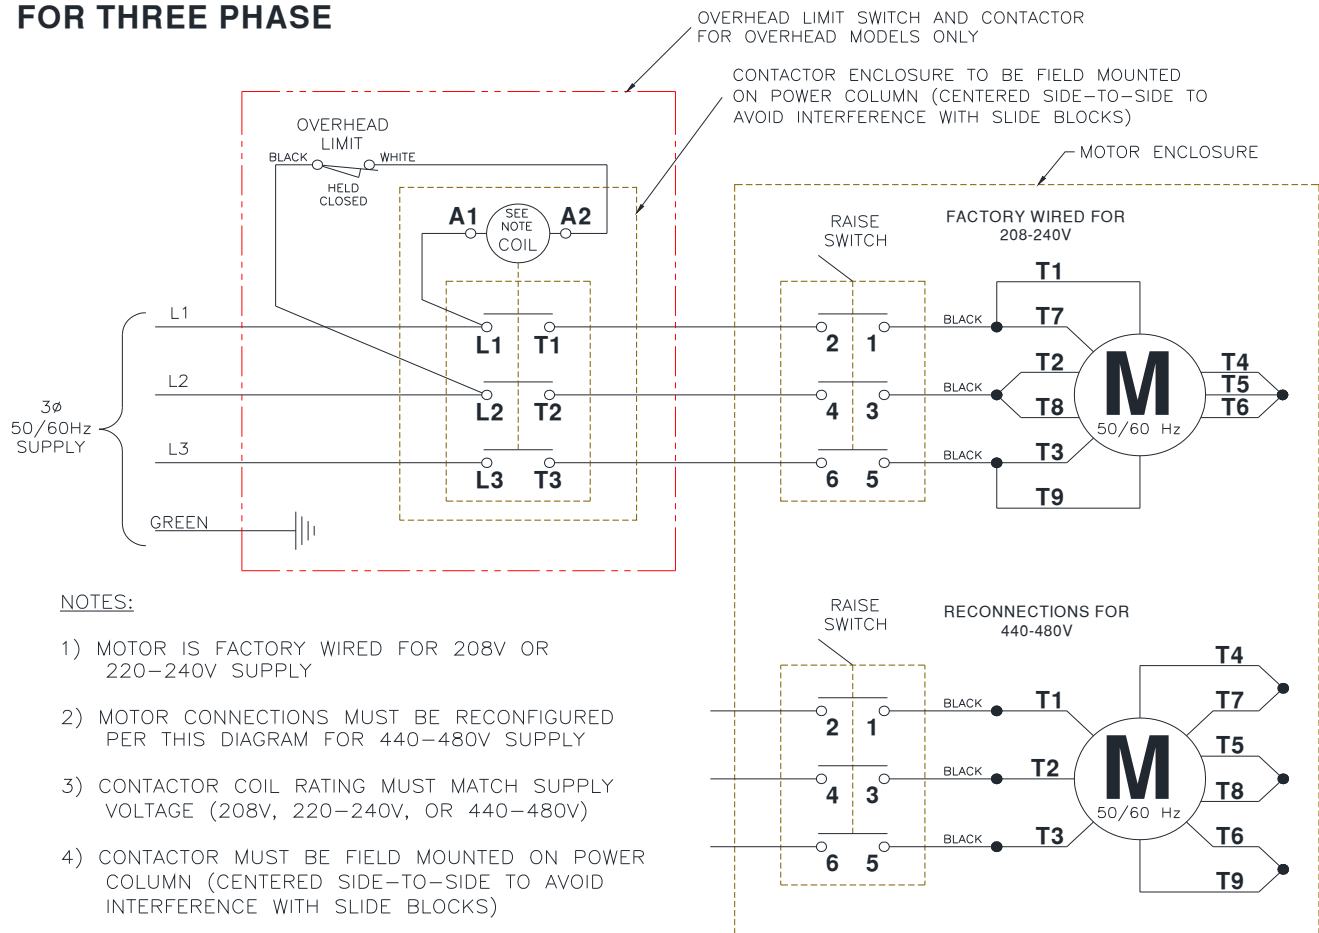

Fig 22 – Electrical Wiring Diagram
- 41) Refer to **Fig 22 Wiring Diagram** for all steps under this heading.